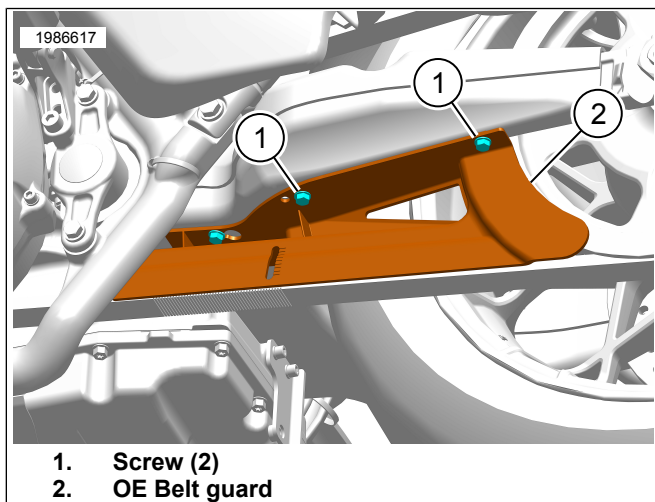

Figure 2. OE Belt Guard
1. See Figure 2. Remove two screws (1) from Original Equipment (OE) belt guard. Save screws (1) for later use.